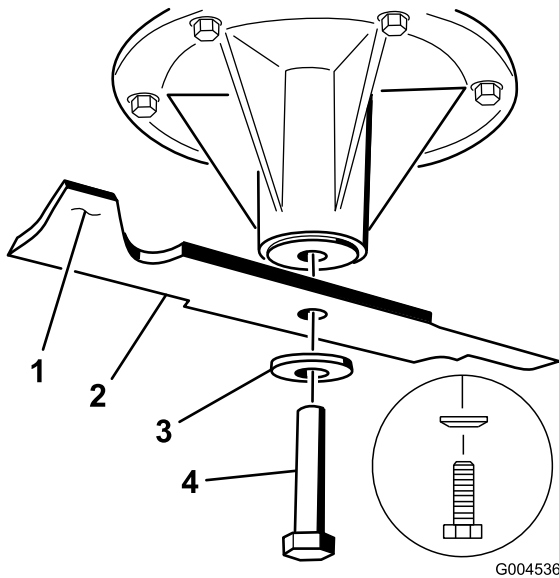

Figure 98
1. Install the blade onto the spindle shaft (Figure 98).
2. Install the spring disk and blade bolt (Figure 98).
Note: The spring-disk cone must be installed toward the bolt head (Figure 98).